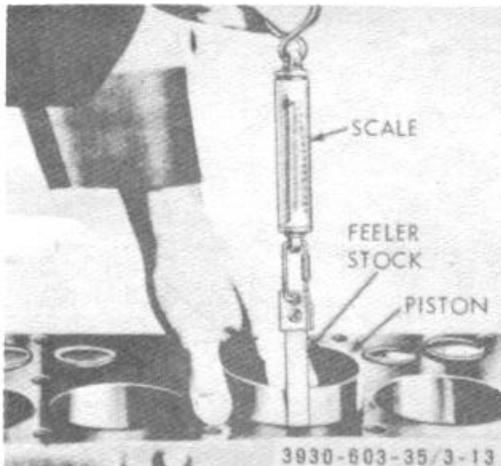

Figure 3-13. Fitting piston into cylinder block.
- (1) Dry piston thoroughly and fit into cylinder bore properly, use a spring scale and feeler ribbon 0.003 inch thick by 1/2 inch wide by 10 inches long. Insert feeler ribbon full length into cylinder bore, about halfway down (fig. 3-13). Hook spring scale into end of feeler ribbon and pull ribbon from cylinder. If piston fit is correct the scale will register a 5 to 10 pound pull.